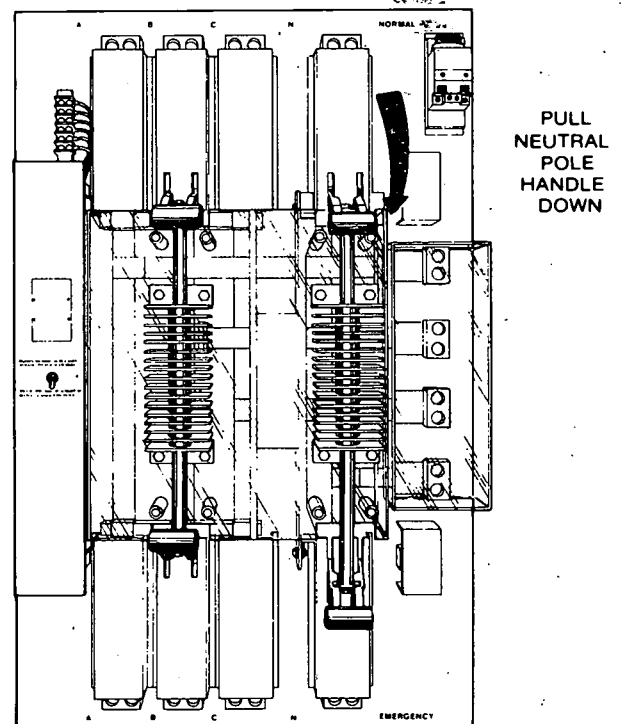

FIGURE 14.
3. Pull the top neutral pole handle all the way down, as shown in Figure 14, connecting the load neutral to the emergency neutral and disconnecting it from the normal power source.